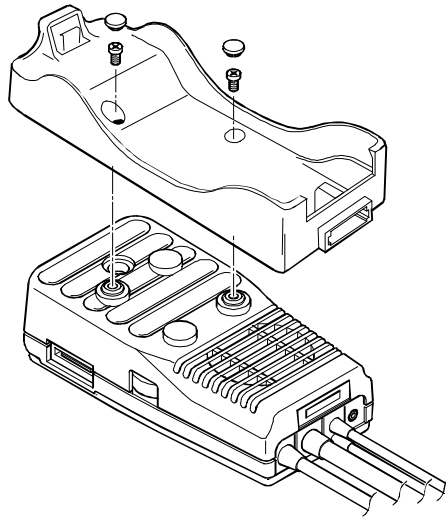

Figure 22: Holder replacement
2. (Figure 22) Reinstall the holder onto the handsfree unit (2 screws).